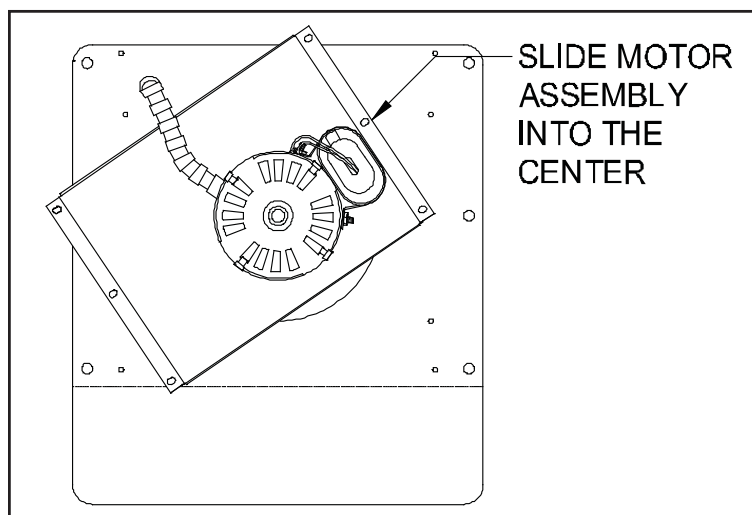

Figure 3
3. Remove the screws securing the motor assembly. Rotate the motor assembly counterclockwise and slide the assembly into the center, then pull the motor assembly out of the unit. (See Figure 3)